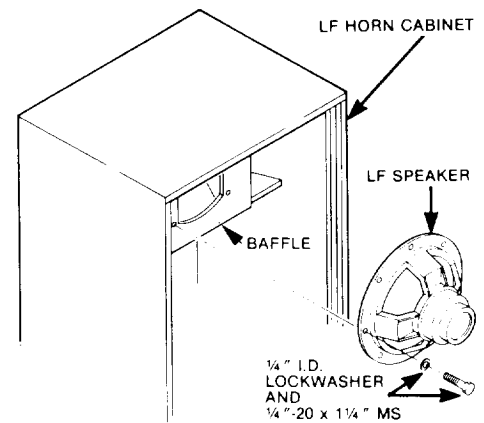

Figure 1. LF Speaker Installation
2. Install 515-8G Low Frequency Loudspeaker using four 1/4"-20 x 1 1/4" machine screws and lockwashers. Screws thread into T-nut mountings of baffle; see Figure 1.